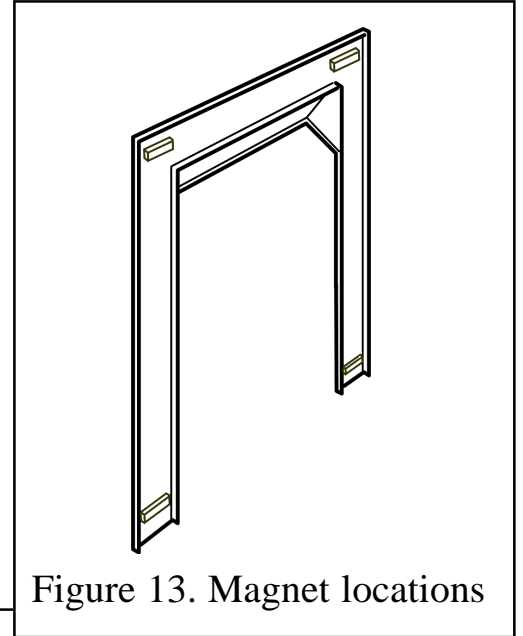

Figure 13. Magnet locations
2. Removing the fascia may have moved the magnets used to fix the fascia to the heater. The magnets should be located as in figure 13.
1. Removing the fascia may have moved the magnets used to fix the fascia to the heater. The magnets should be located as in figure 13.